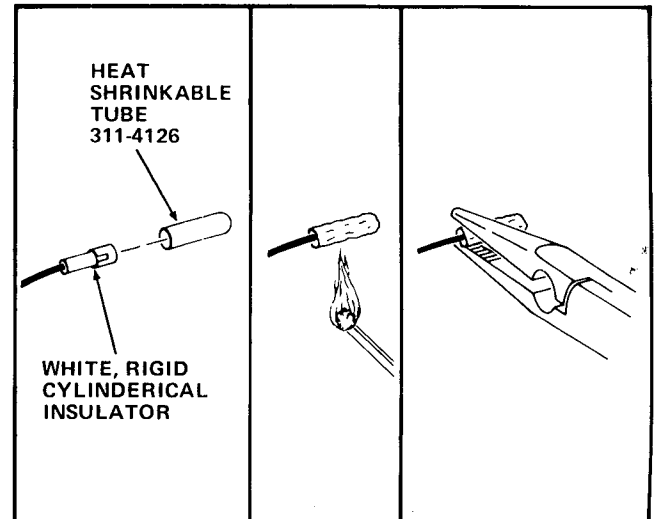

FIGURE III-5
29. Place the Heat Shrinkable Tube (part number 311-4126) over the white, rigid, cylindrical Insulator on the end of the third Black Wire on the Icemaker Motor Cable Assembly. See Figure III-5.